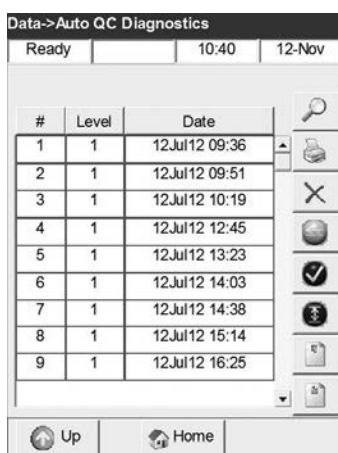
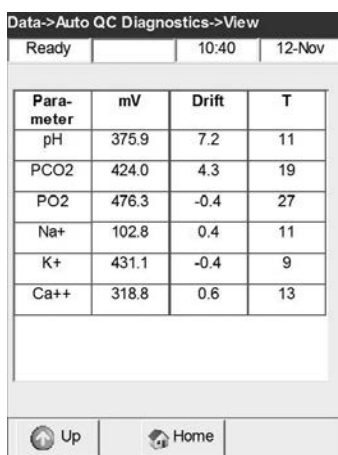

Fig. 7-42 Select Measurement
Fig. 7-43 Auto QC Diagnostics
- In the **<Data - Auto QC Diagnostics>** screen (Fig. 7-42), select the desired measurement and press the **View** button to display the Auto QC results (Fig. 7-43). Use the **Up** and **Down** buttons to display the previous or next page of results.
- To print individual results, highlight the desired measurement (Fig. 7-42). To print groups of results, highlight the first measurement to be printed, press **Mark**, then select the last measurement to be printed. All the measurements in between will be selected. Press **All** to select all results.